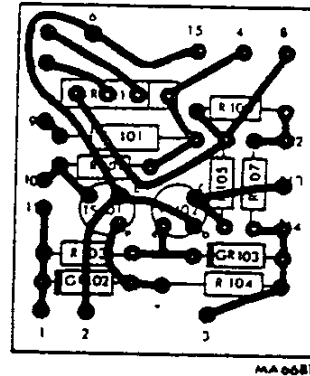

Fig. 1/Abb. 1
- On unit 1, diode GR101 (BY122) replaced by BY164 and due to this, the print-tracks were modified (see fig. 1).